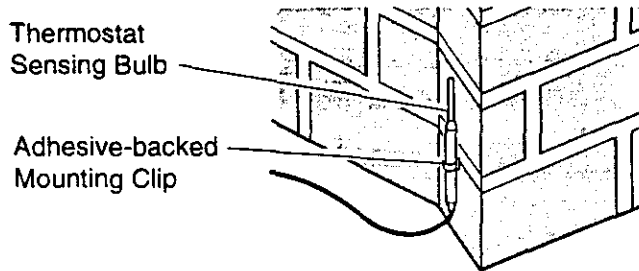

Figure 30 - Locating Thermostat Sensing Bulb on Masonry Fireplace
4. The thermostat sensing bulb may be located to the lower right front side of fireplace. Determine location of sensing bulb, but do not mount sensing bulb until step 5. If you have a masonry fireplace, see Figure 30 on page 30 for location.